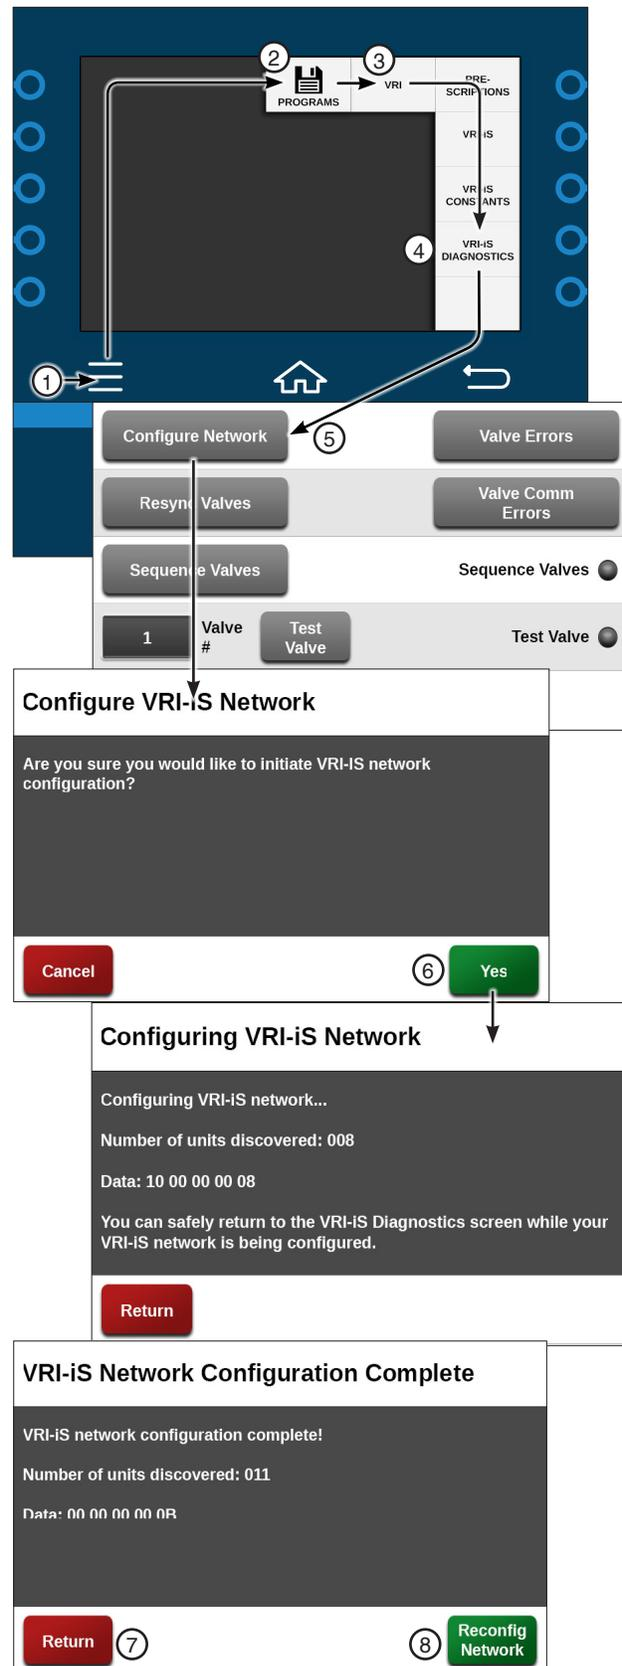

Figure 180-1 1. Menu 5. Configure Network
1. Push **Menu**, **Programs**, **VRI** and **VRI-iS Diagnostics** to display the VRI-iS diagnostics screen. Refer to Figure 180-1.